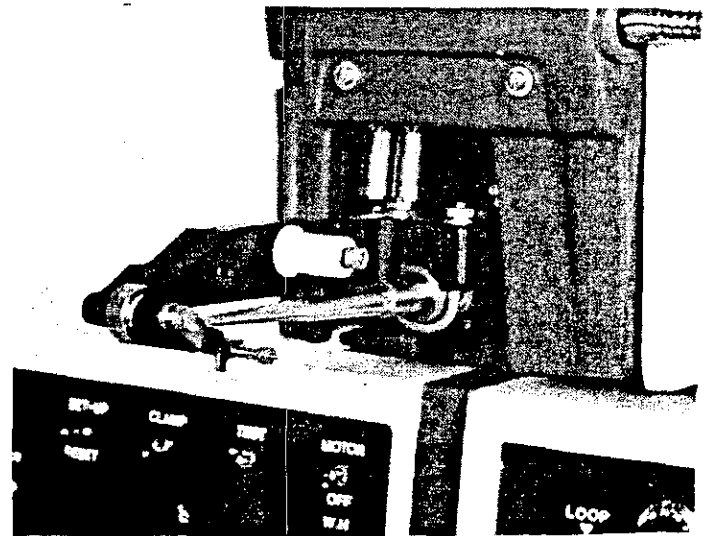

Figure 1-5 Clamp Pads
- Step 20 Remove the small plastic pad from between the jaws of the Wire Clamp (see Figure 1-5).